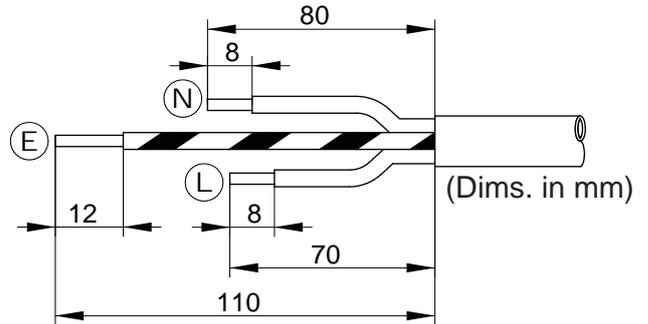

Fig. 3
2. Strip and prepare the cable sheath and insulators as shown in Fig. 3.